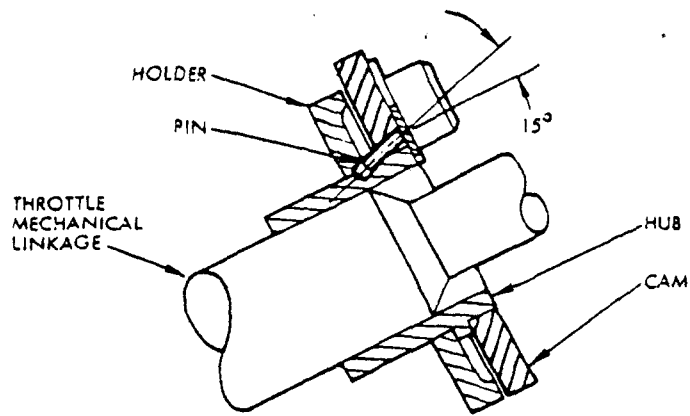

Figure 203 - Pin Installation Requirements
- (9) Remove screw (1) and drill 0.069-0.071 inch hole through pilot hole (as shown in Figure 203) in cam (4) and through hub (9). Insert pin (3) into hole. Install washer (2) and screw (1).
- (10) If actuation of switch (14) meets requirements of Step (8), safety wire screws (1) with MS20995C32 in accordance with Military Specification MS33540. If switch actuation requirements are not met, repeat Steps (7), (8), and (10).
- (11) Install and close inboard lower engine cowl door per aircraft maintenance manual.